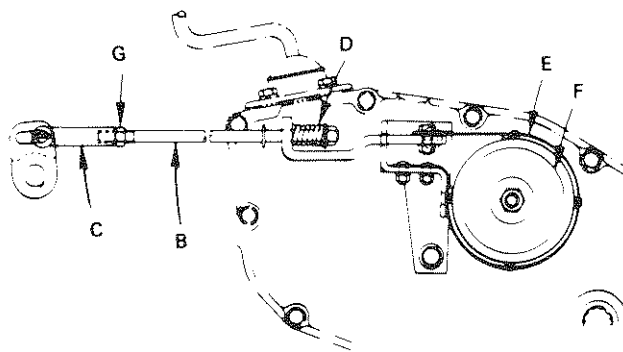

FIGURE 22
- Loosen jam nut (G) on brake rod (B) at clevis (C) (Fig. 22). If you find it difficult to loosen jam nut (G), remove cover plate in L.H. frame rail.
- Rotate brake rod (B) counterclockwise (↺) turning brake rod out of clevis (C) four to six turns.
g. Shut engine off. Rotate brake rod (B) clockwise (↻) by hand, turning brake rod into clevis (C), until tight. Tighten jam nut (G) on brake rod. (B) at clevis (C) (Fig. 22).
h. Reinstall shift cover plate and four (4) mounting screws. Replace cover plate if removed in step (b).